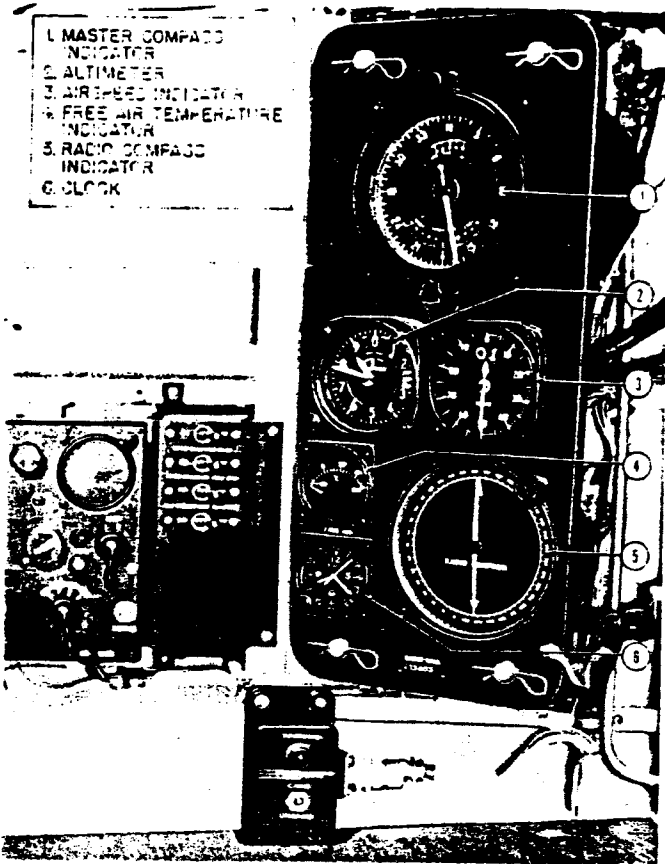

Figure 8. Navigator's Instrument Panel
(1) GENERAL.- The master compass indicator is located on the navigator's instrument panel, see 1, figure 8, and a repeater indicator is situated on the pilots' instrument panel. The amplifier is located on the floor under the navigator's table.
(2) OPERATION.
(a) To start the gyro compass, turn "ON" both the dc and ac switches. (See figure 8.) Check to see that the amplifier switch is "ON."
(c) Erect the gyro by moving the toggle switch, figure 8, first to the "CAGE" position and then, after waiting a few seconds, to the "UNCAGED" position.